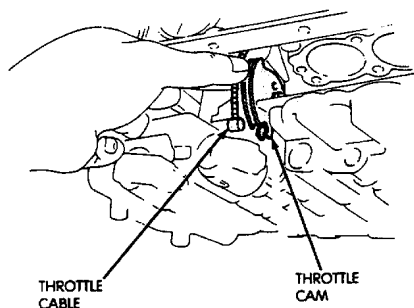

Fig. 13 Removing/Installing Throttle Cable
(4) Remove valve body oil tubes (Fig. 13). Carefully pry tubes out of valve body with screwdriver.
(5) Disconnect throttle cable from throttle cam (Fig. 13).
- (1) Connect cable to throttle cam (Fig. 13).